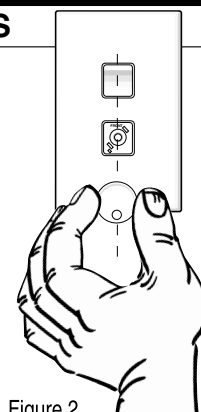

Figure 2
2. The dimmer knob should then be fitted, ensuring that the dimple is facing downwards and lined up with the vertical (see figure 2).